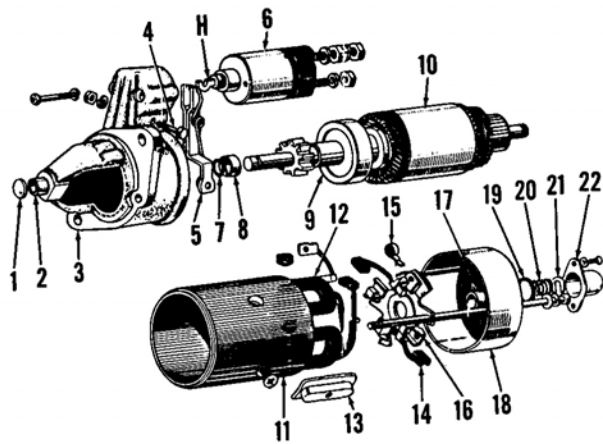

Fig. 36—Exploded view of electric starter.
49. Refer to Fig. 36 for an exploded view of Nippon Denso electric starter used on all models. Minimum brush
Pinion engagement depth is adjusted by turning hook (H—Fig. 36). With starter pinion in engaged position, distance between collar (8) and pinion should be 0.1-0.4 mm (0.0039-0.0157 inch). Turn hook (H) so pinion engagement depth is correct.